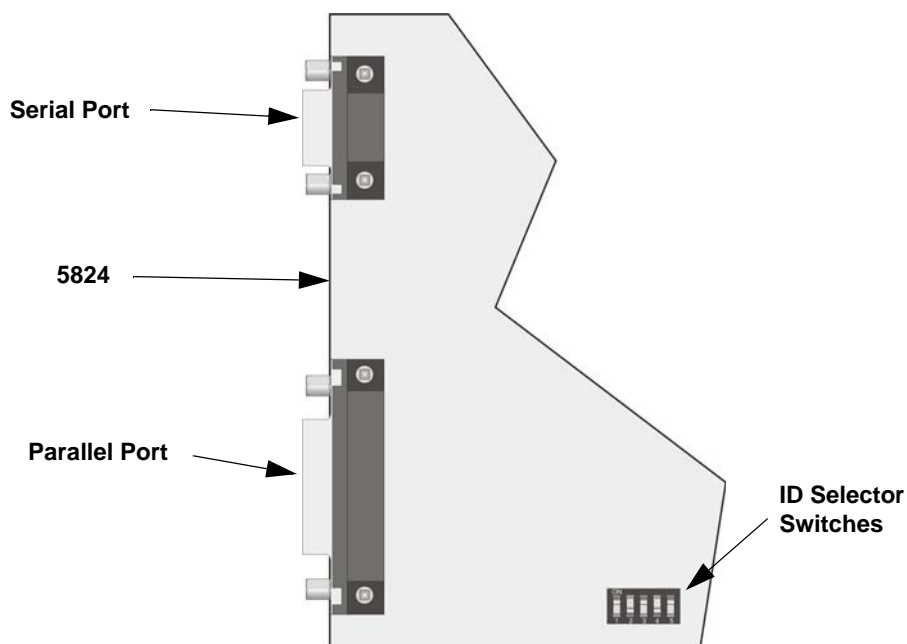

Figure 3-25 Model 5824 Serial/Parallel Port, and ID Selector Switch location
6. Set the device ID (see Section 3.14.1). See also Figure 3-25 for ID selector switch location.